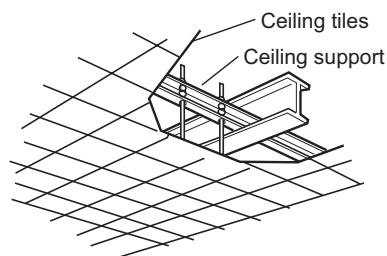

Fig. 2-90
- Use existing ceiling supports or construct a suitable support (Fig. 2-90).